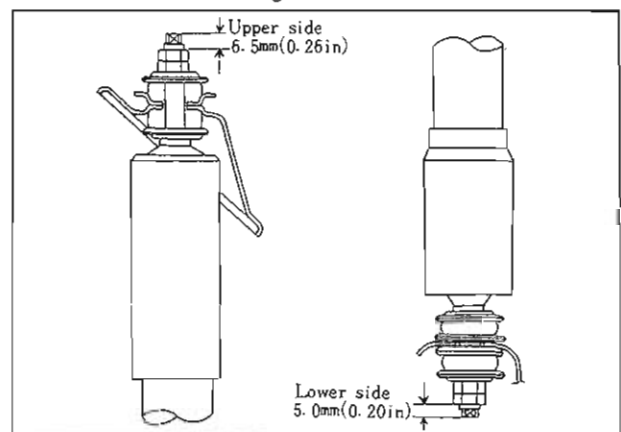

Fig. 13A-4 Tightening of lock nut
2. Tighten the shock absorber upper nuts to the dimension shown in Fig. 13A-4.